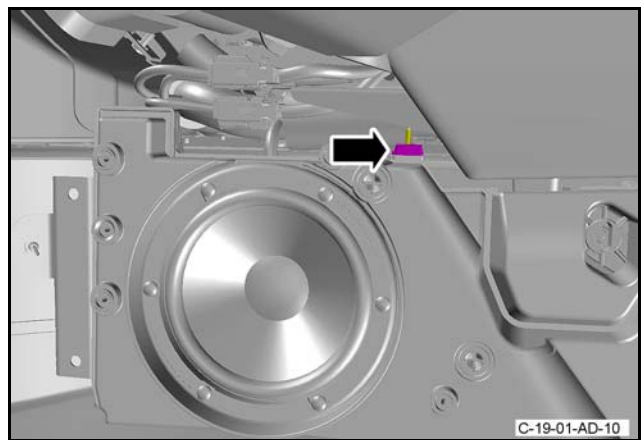

Figure 8
- 23. Disconnect the electrical connector from the footwell speaker (refer to Figure 8).